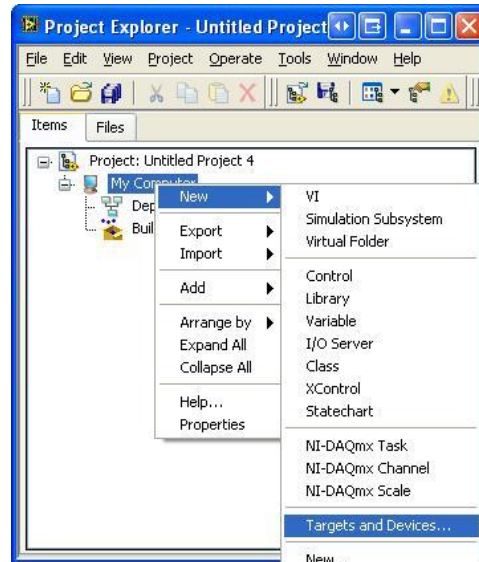

Figure 8: Create New Target
2. Right-click **My Computer** under the project name and go to **New»Targets and Devices** as shown in Figure 8 below.